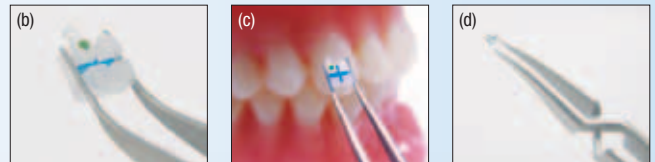
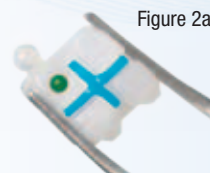

Figure 2b-d
Figure 2a
A. Clarity ADVANCED Ceramic Brackets feature an easy-off vertical and horizontal reference marker (Figure 2a) to guide bracket placement. To minimize force on the vertical stress concentrator, which provides the easy debonding feature of this bracket, the bracket should be picked up and positioned by seating the instrument on the base flange of the bracket, as opposed to higher up on the tie-wings (Figure 2b and 2c). It is recommended that reverse-action tweezers are used (e.g. REF 804-171) to pick up and position the bracket (Figure 2d) as these